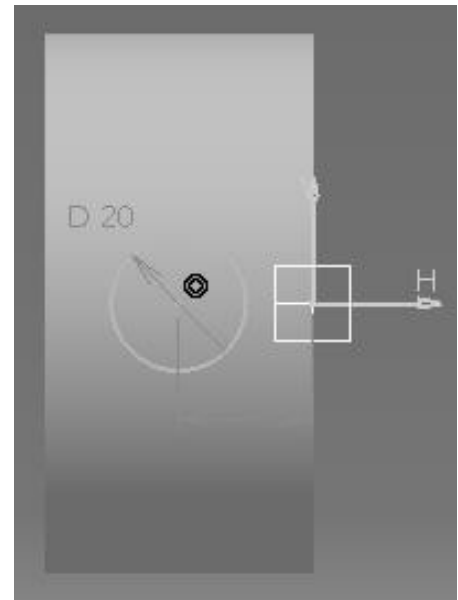

Figure 2.11
2.20 Create a **Circle**, with a radius of 20mm and **Constrain** it as shown in figure 2.11